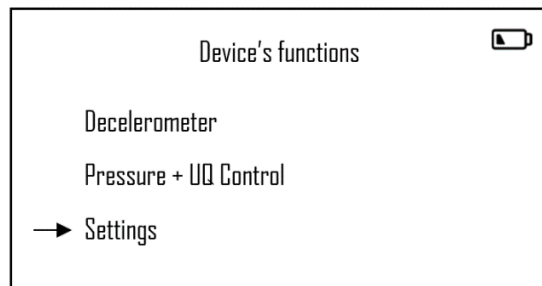

Fig. 19 – Device's functions screen
(1) One time per month Operator should check the accuracy of BMD-400 device indications in according to procedure below:
- By use the ↑ and ↓ arrows choose “Settings” (Fig.19), and confirm by press ENTER,